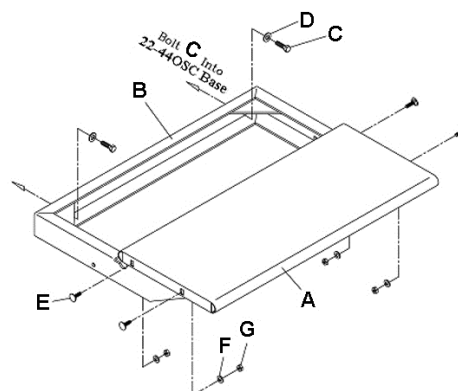

Figure 6
1. Bolt the *base bracket* (B, Fig. 6) to the sander base with two 3/8"-16 x 1" hex head cap screws (C) and two 3/8" flat washers (D). Tighten the screws.